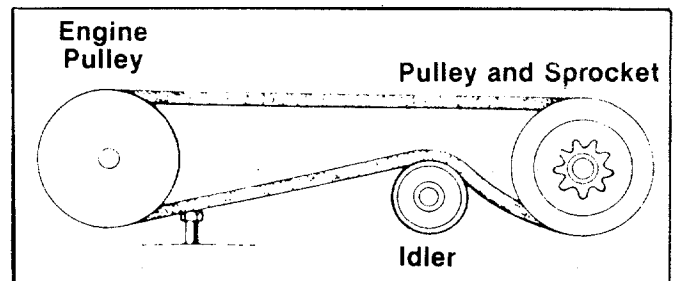

FIGURE 26.
- Reassemble in reverse order with new belt, making certain the idler pulley is under the belt. See figure 26.